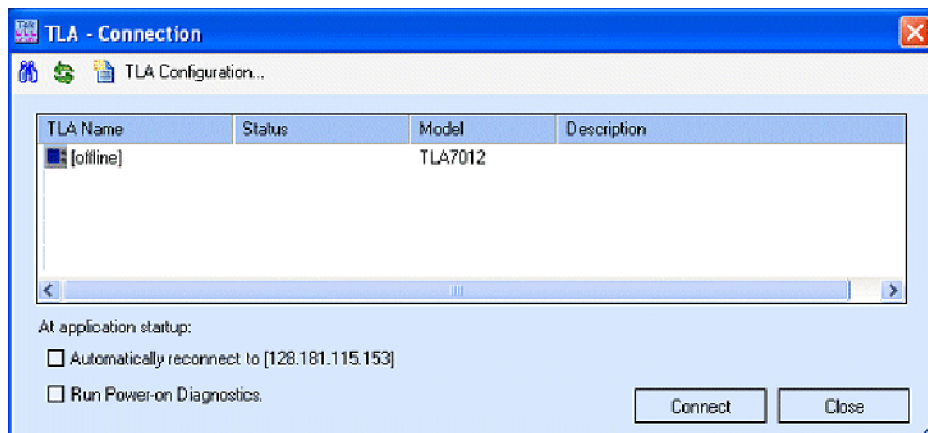

Figure 8: TLA Connection dialog box
8. Start the TLA application by double-clicking the TLA Application icon on the controller. The TLA Connection dialog box appears. (See Figure 8.)